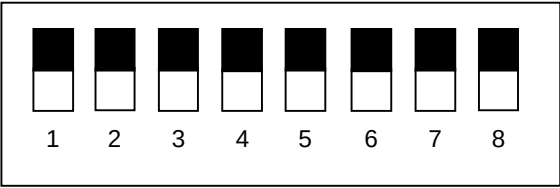

Figure 6.8.2 DIP switches (Being set for Standard setting)
(3) Set the DIP switch No.4 as shown in Figure 6.8.2.